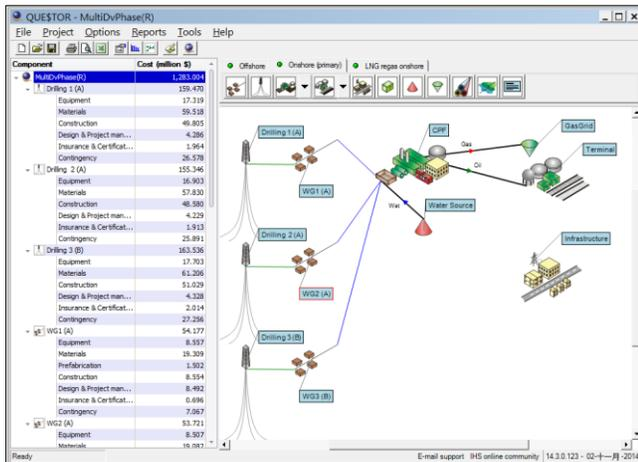

Fig 5-3: Field Development Schematic of the Reference Project
- The components were setup and named as shown on the main schematic in Fig 5-3.